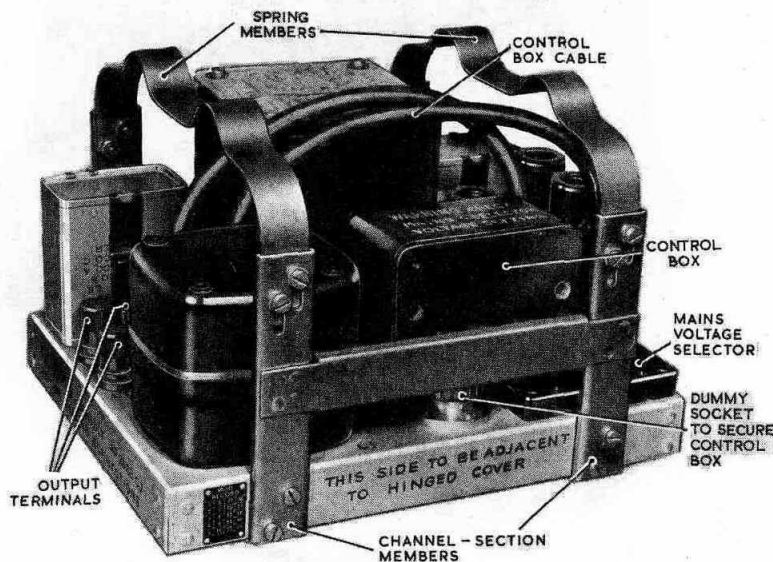

Fig. 1. Power unit Type 7262, general view
4. The components are mounted on a shallow aluminium chassis and are protected from accidental damage by a metal framework (*fig. 1*). This framework also serves to locate the unit in the battery compartment of the frequency meter, and since the compartments vary in size the framework is made adjustable in height. The two upper members of the frame are made of springy strip material shaped for easy insertion in the battery compartment, and slide in channel-section vertical members of the lower framework. They are secured at the desired height by screws which pass through slots in the lower members into nuts secured to the upper ones.
into the battery compartment. When not in use the cable is coiled up and the control box stowed in the power unit as shown in fig 1. It is secured in the stowed position by engaging the locking ring of a dummy socket on the chassis with the mains plug on the control box.